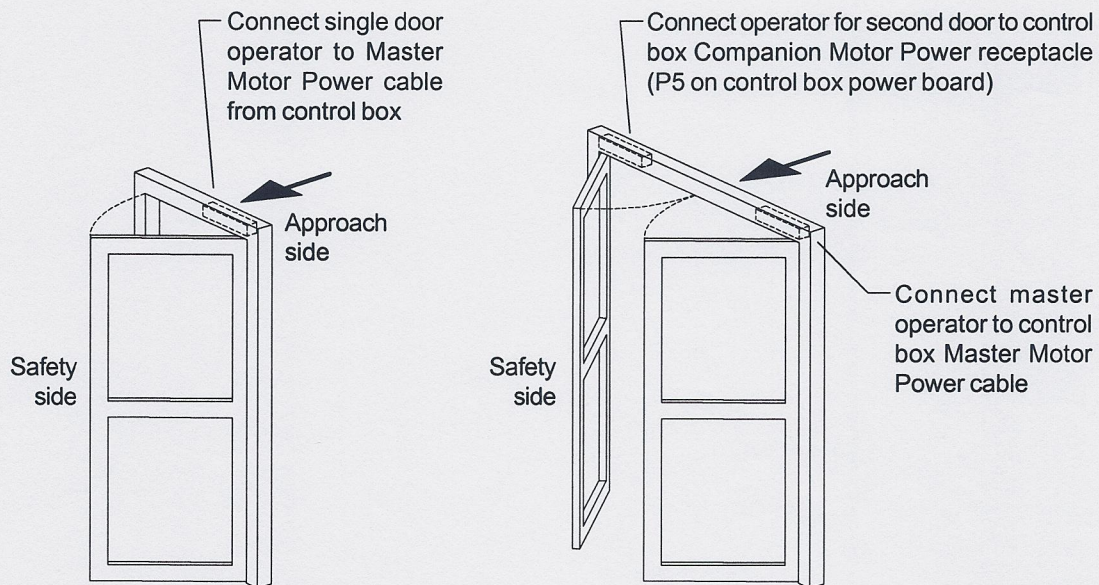

Figure 3-1
- See Figure 3-1 for system configuration terminology.